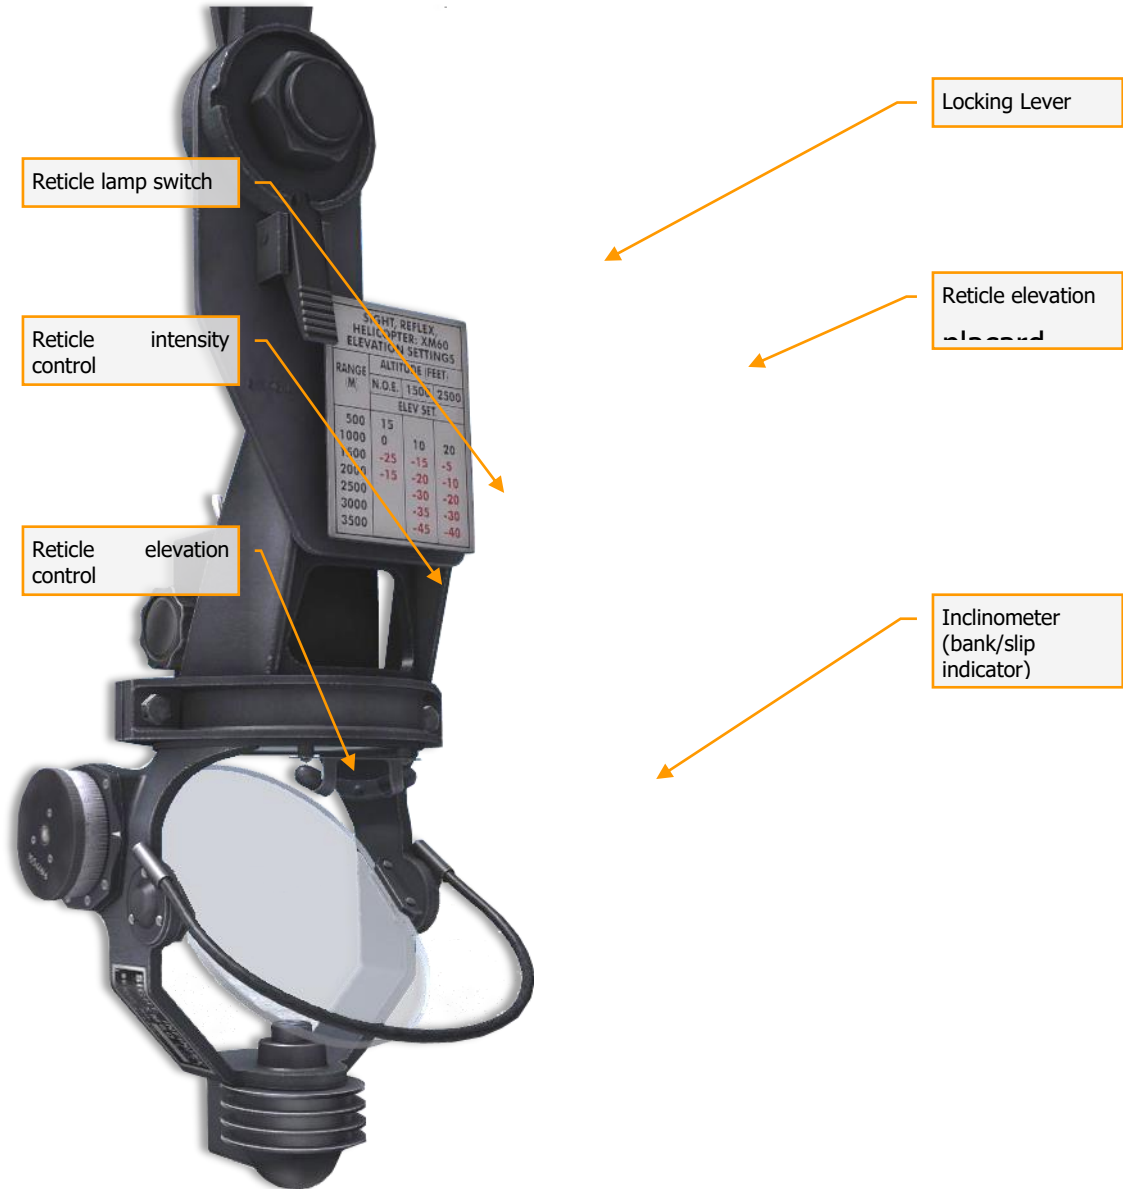
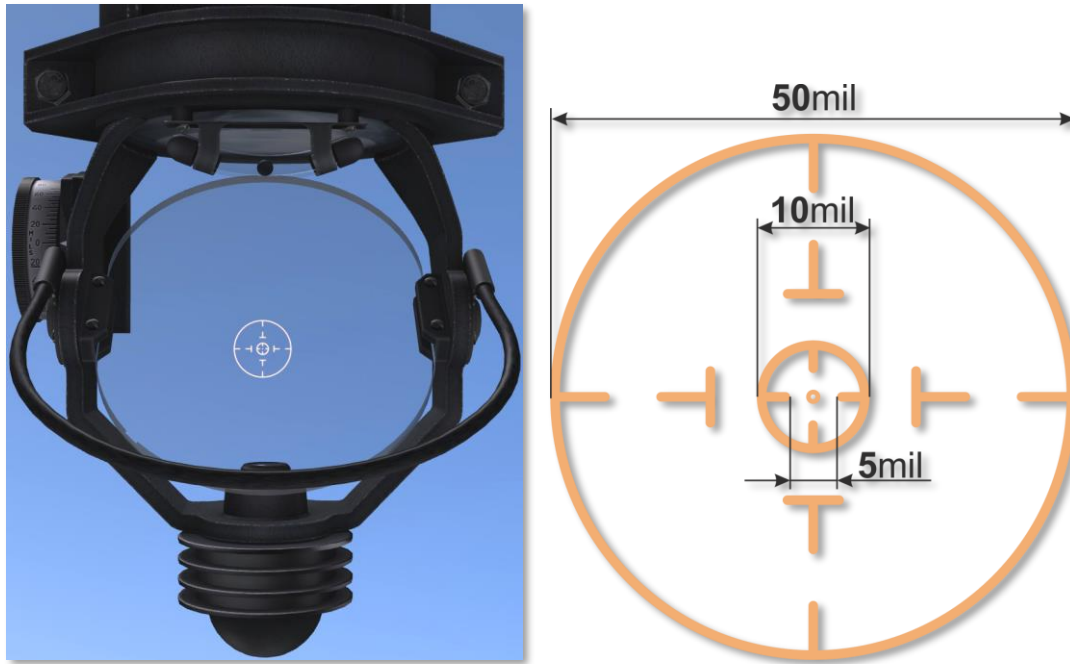
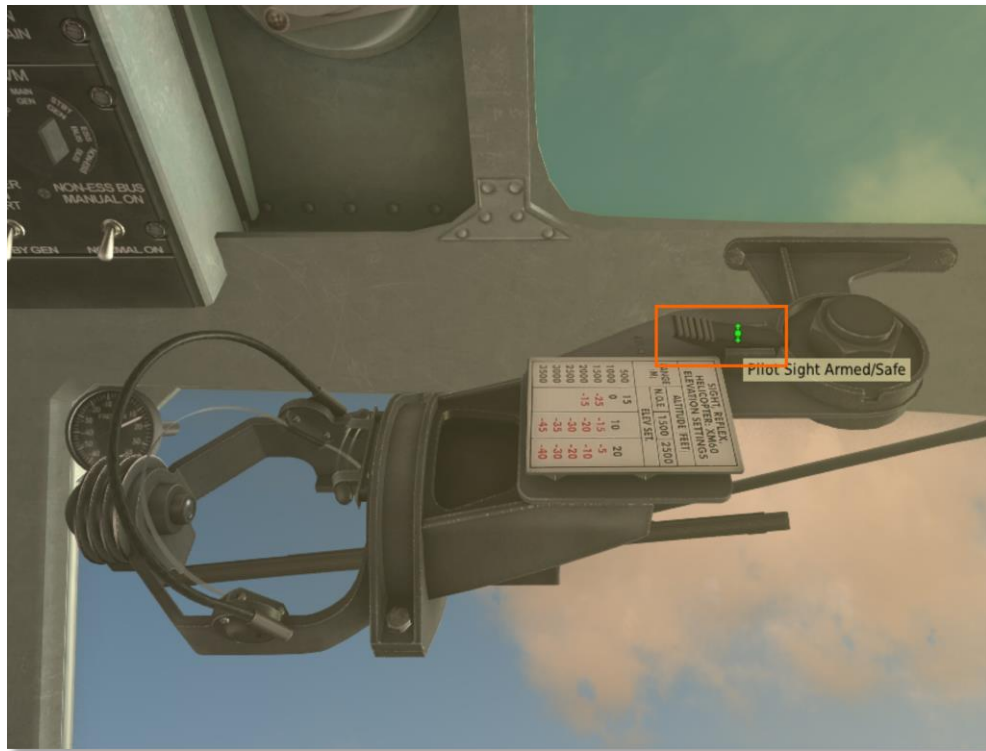

Figure 8.7. XM60 Reflex Sight.
Figure 8.8. Reflex Sight XM60 – Reticle Pattern.
Figure 8.12. The Locking Lever of the XM60 Infinity Sight.
XM60 INFINITY SIGHT. The pilot uses the XM60 (Figure 8.7) infinity sight to aim the rockets and the stowed automatic guns. When the sight is not in use, it may be stowed near the helicopter's ceiling in front of the pilot. Reflex sight XM60 (reticle pattern) – Figure 8.8.
- a) Depress the locking lever to disengage the sight from the stow indent [LMouse click] or [RShift+M] (see Figure 8.7, Figure 8.12),
- d) Set desired Sight Elevation at the fixed index scale on the sight: Elevation Decrease – [**L**Alt + **S**], Elevation Increase – [**L**Ctrl + **S**] (or turn mouse wheel) (see Figure 8.7, Figure 8.13).